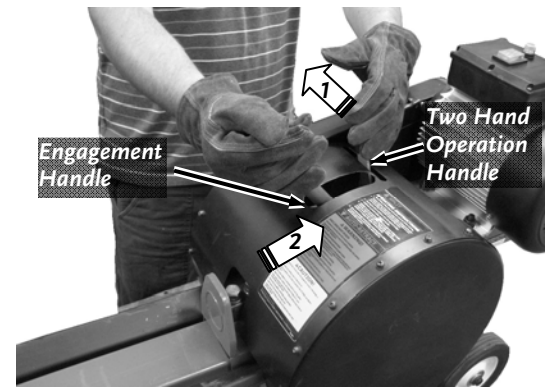

Figure 10
2. With one hand, actuate and hold the Two Hand Operation Handle towards you, then **RAPIDLY** actuate the Engagement Handle fully towards the Motor until it contacts the hard stop and hold firmly until the Log is split (**Figure 10**).